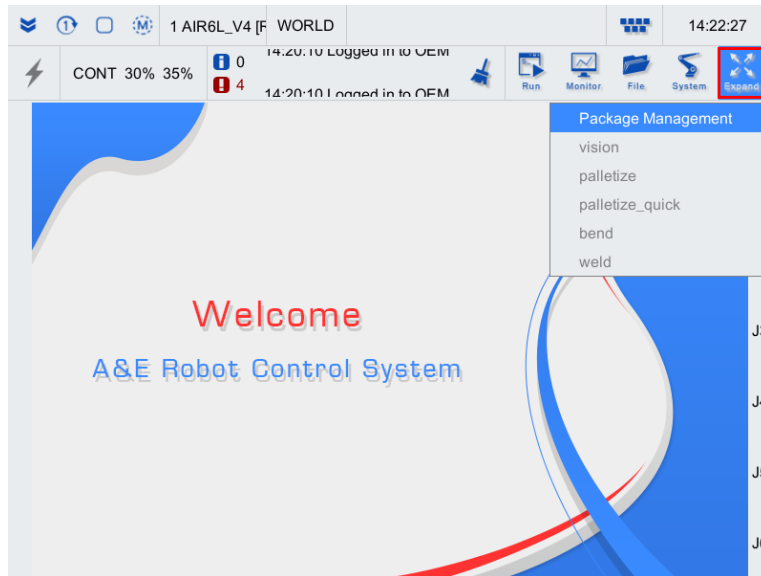

Fig. 3-14 List of feature pack
Step 1. Click the "Expand" button to pop up the drop-down list, as shown in Fig. 3-14.